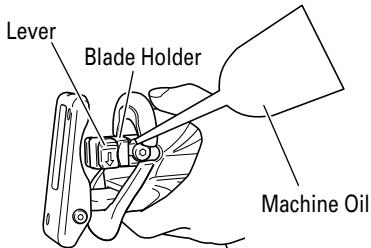

Fig. 9
- (1) After use, blow away sawdust, earth, sand, moisture, etc., with air or brush them away with a brush, etc., to ensure that the blade mount can function smoothly.
(2) As shown in Fig. 9, carry out lubrication around the blade holder on a periodic basis by use of cutting fluid, etc.